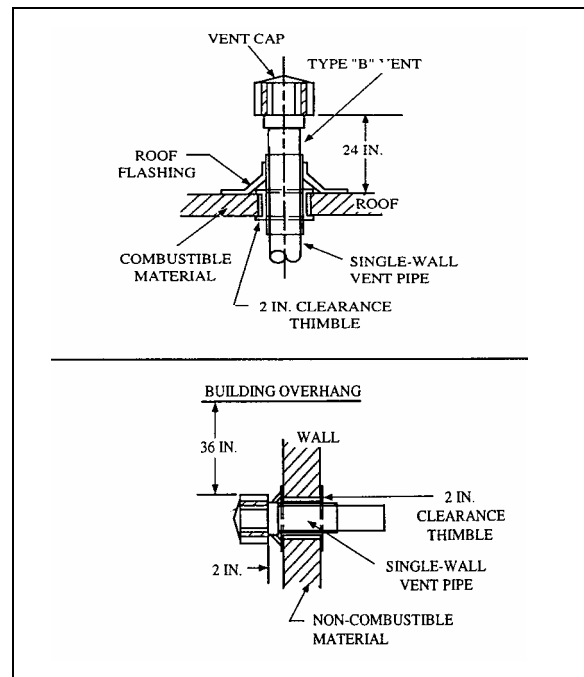

Figure 2-19
- Single wall galvanized flue pipe or Dura-Connect single wall, flexible connectors must be used. The portion of the flue pipe which goes through combustible material in the building wall or roof must pass through a type “B” vent to maintain clearances (see Figures 2-19 and 2-20).
should be 2 in. from the sidewall. Care should be exercised to ensure that vent opening is beyond any combustible overhang (see Figure 2-19).